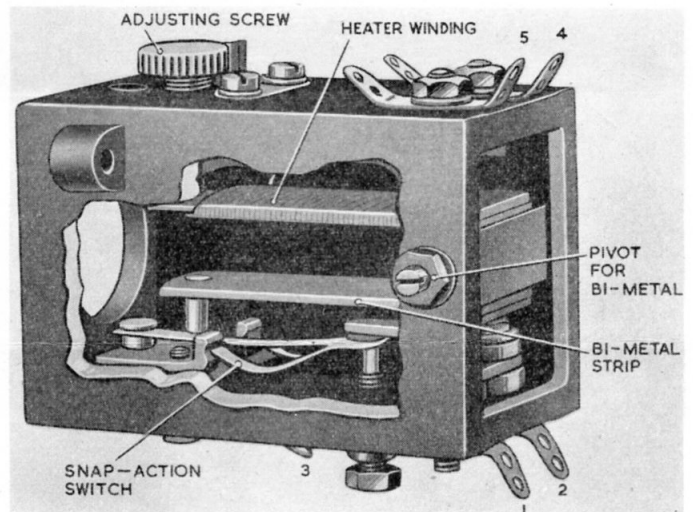

Fig. 1. Time delay switch, Type TYEM/I
2. A cut-away view of the switch is shown in fig. 1. It consists essentially of a bi-metal strip carrying a heater winding; when the heater is energized, the bi-metal is deflected and operates a snap-action switch. A second bi-metal strip compensates for variations in ambient temperature. By making the appropriate external connections, the unit can be adapted for use as a normally open, normally-closed, or single-pole change-over switch.